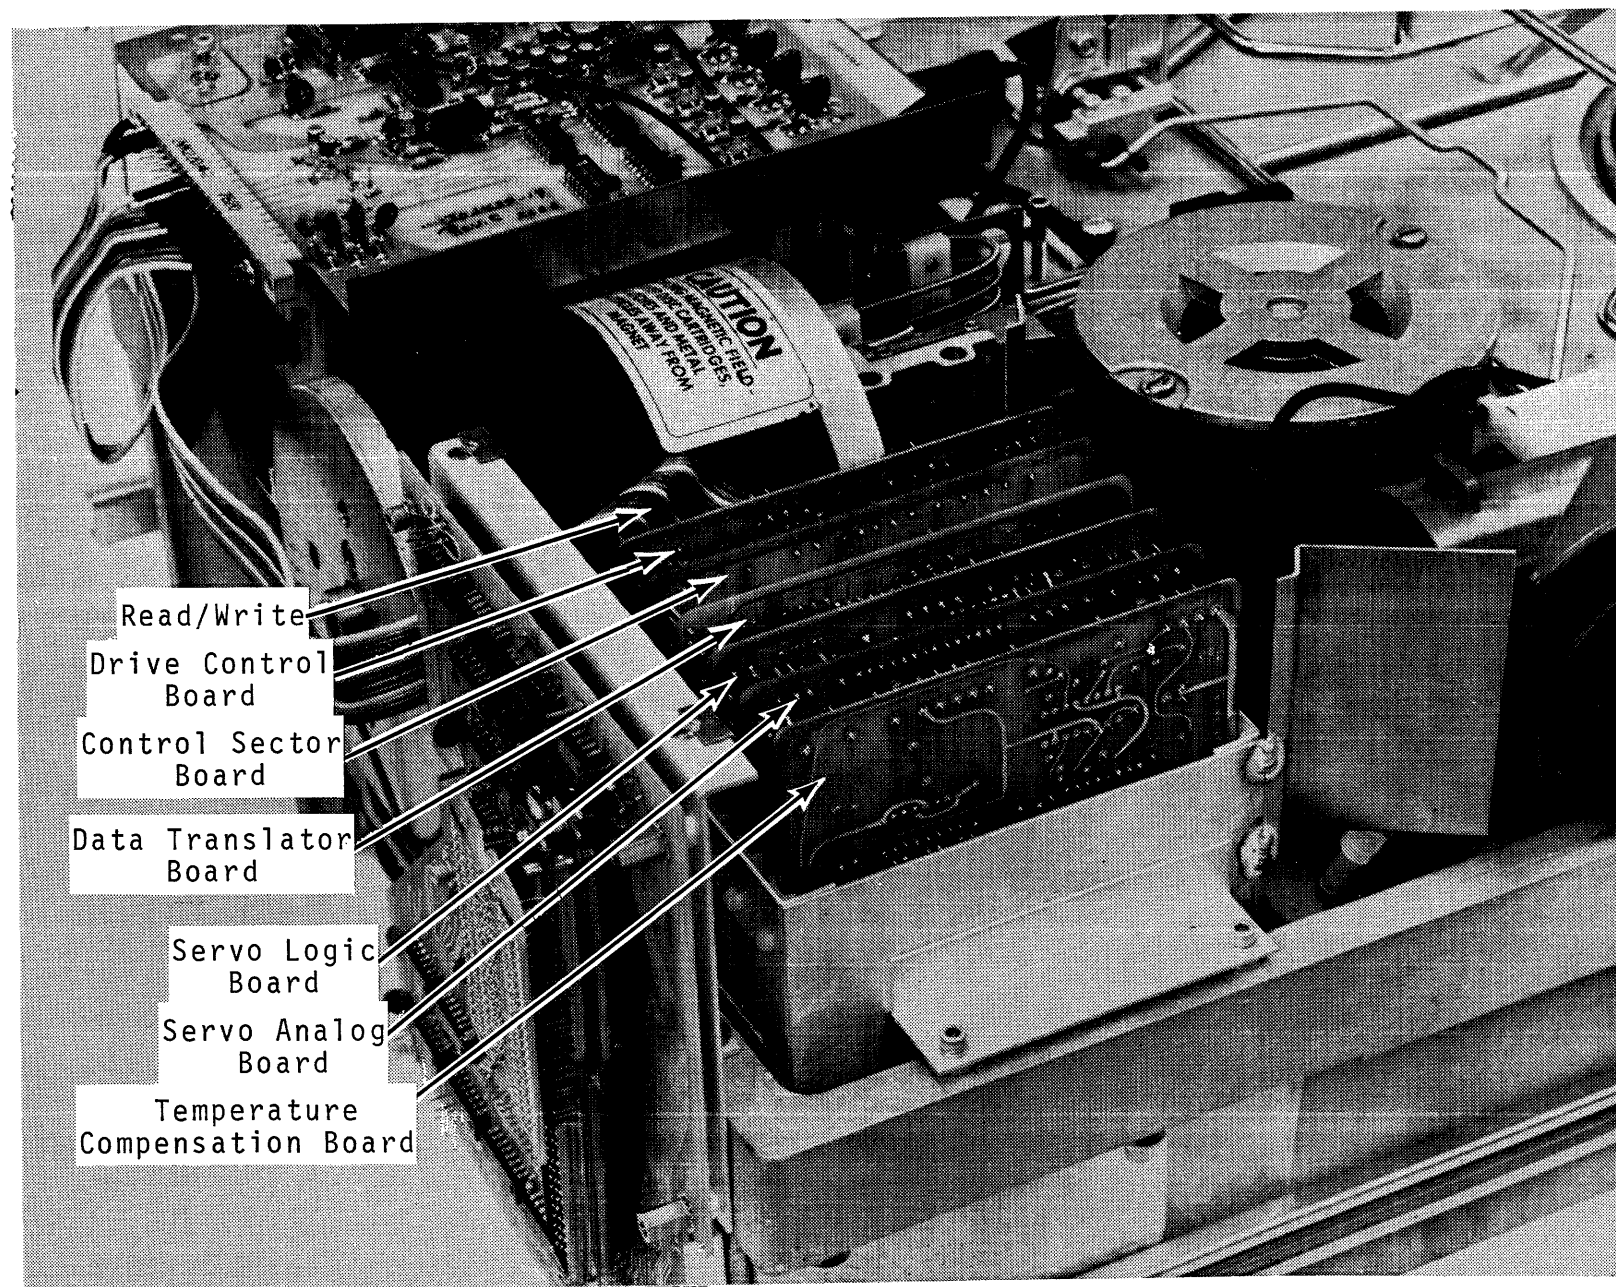

Figure 7-11. Card Cage
2. Pull the DCB out of the card cage. (See Figure 7-11).